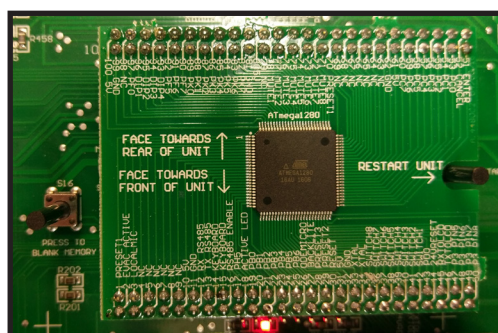

Fig 6.1A
3. The microprocessor card is located on the main board as shown in fig 6.1A. Remove the board, taking care not to touch the microprocessor itself. Note: the board may be difficult to pull out.